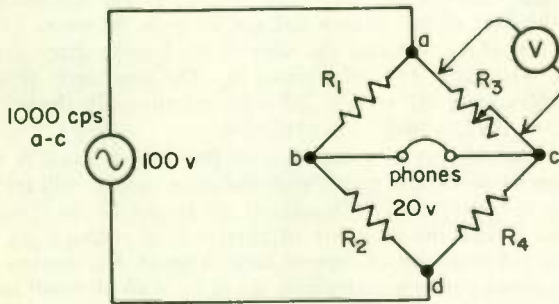

Fig. 28
19. In the bridge circuit of Fig. 28 resistor R_3 must be adjusted until the voltage across it reads _____ volts in order to balance the bridge.